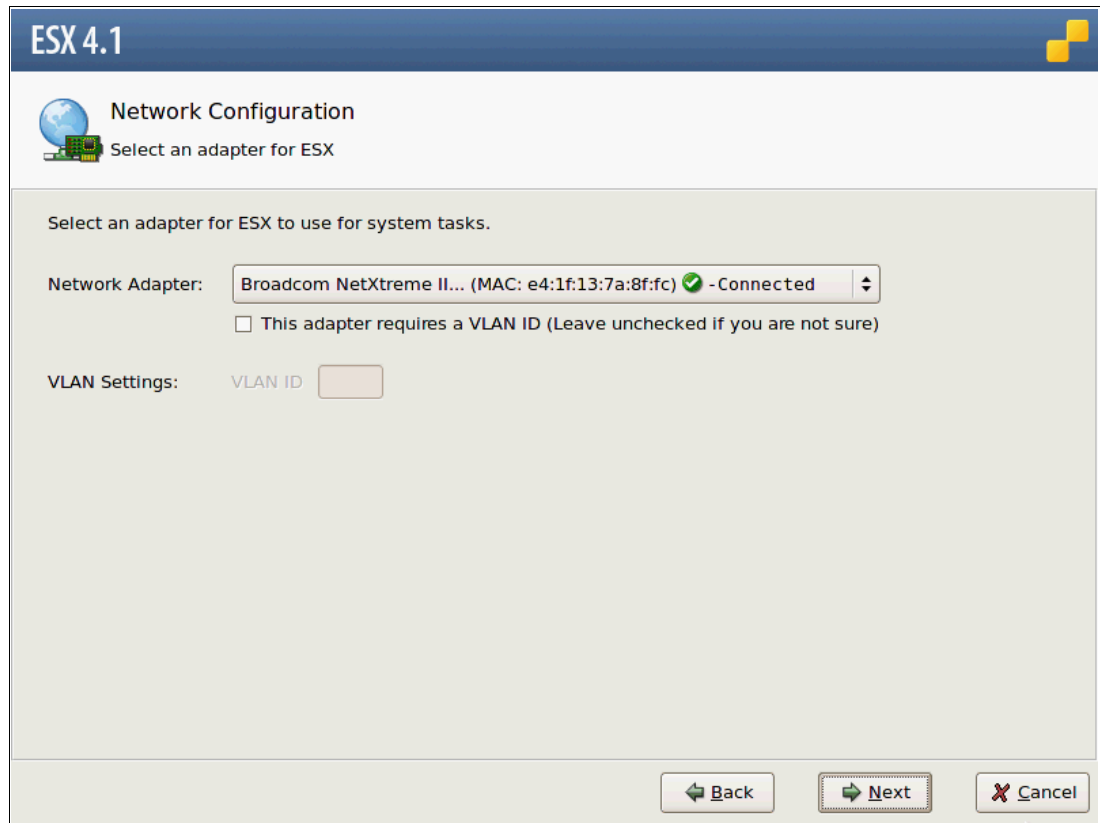

Figure 22-20 ESX Console Network Adapter
9. In the Network Configuration window (Figure 22-20), select an Adapter for the ESX Console Default switch and click **Next**.